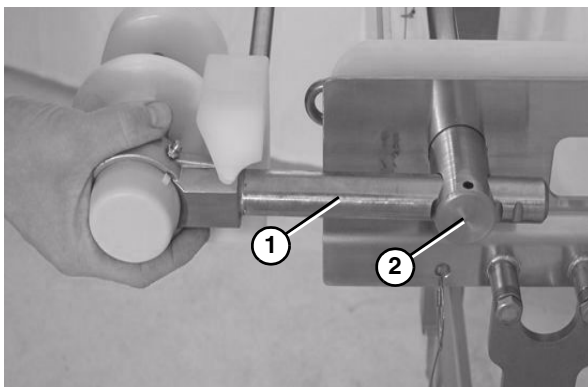

Figure 66
- Slide the idler tail assembly (**Figure 66, item 1**) out of the take up blocks (**Figure 66, item 2**).